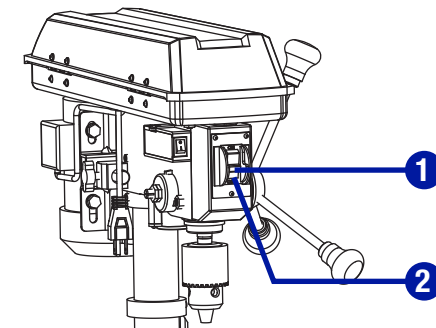

Fig. 23
**ON/OFF SWITCH (Fig. 23)**
- To turn the drill press On, insert the safety key (1) into the switch housing (2). As a safety feature, the switch cannot be turned On without the key.